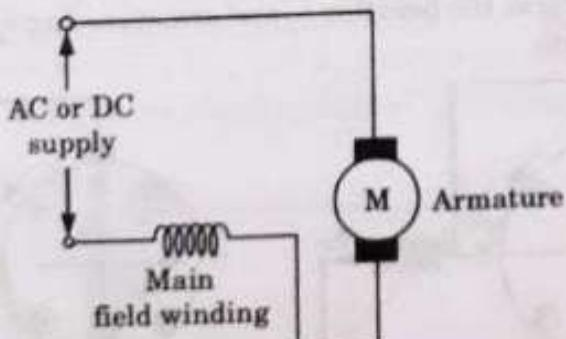

Fig. 5.5.3. Non-compensated type.
- a. **Non-compensated type :** The connection diagram of non-compensated type universal motor is shown in Fig. 5.5.3.